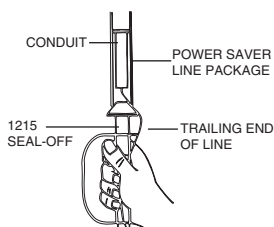

Figure 6
3. Hold the seal-off hose frost guard, force rubber cone firmly in the conduit entrance and give the line package two or three quick spurts of CO₂. The package should be blown through the conduit trailing a line as it goes (Refer to Figure 6 and Table 1).